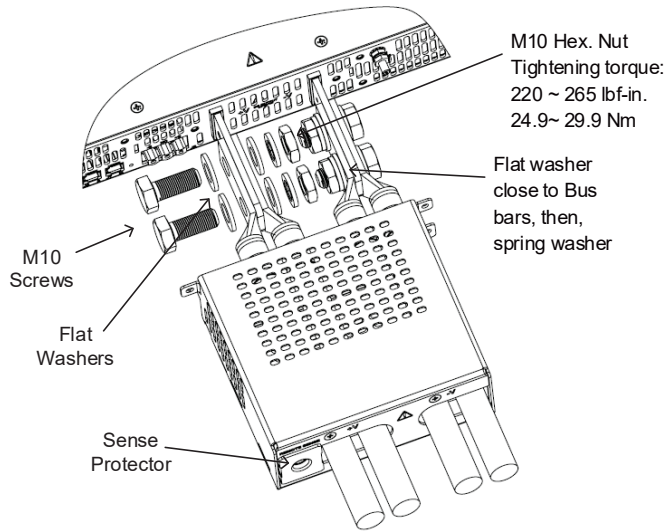

Figure 4-51: 10V 7.5kW Wires Assembly
- 4. Fix the wires to the Bus bars as shown in Figure 4-51. In this model, the plastic protectors will not be assembled. Assemble only the sense protector.